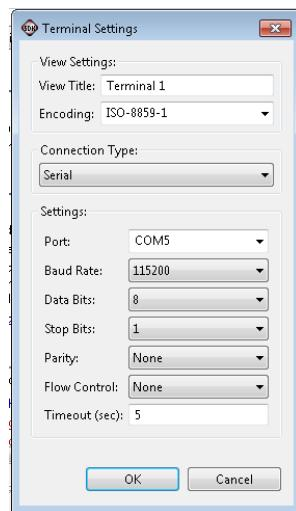

Figure 245 Terminal Settings
- d. Change Baud Rate to 115200 (Figure 245)